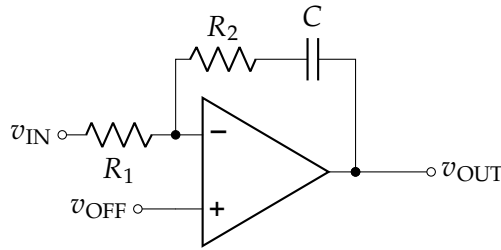

Figure 11.6: PI controller circuit
Next, we need a circuit that can implement the transfer function in equation (11.2). There are many ways to build integrators, differentiators, and amplifiers that can be used in a PID controller. In this experiment, we will focus on the PI controller⁽⁴⁾. The PI controller can be built using a single op amp, as shown in figure 11.6.
2. Plot the Magnitude and Phase response of $\frac{v_{OUT}}{v_{IN}}$ for the circuit in figure 11.6 given: